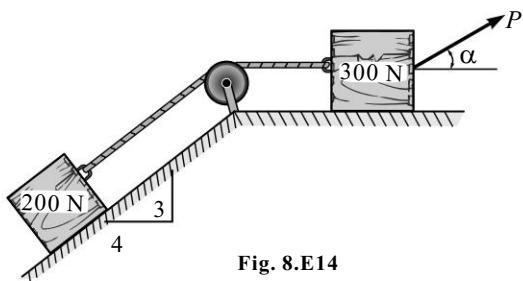

Fig. 8.E14
15. Find the weight W_B if the weight $W_A = 20 \text{ kN}$ is to be kept in equilibrium with pin-connected rod AB in horizontal position. Find also maximum value of W_B for the same purpose. Find, therefore, the range of values of axial force in the rod AB . Refer to Fig. 8.E15.